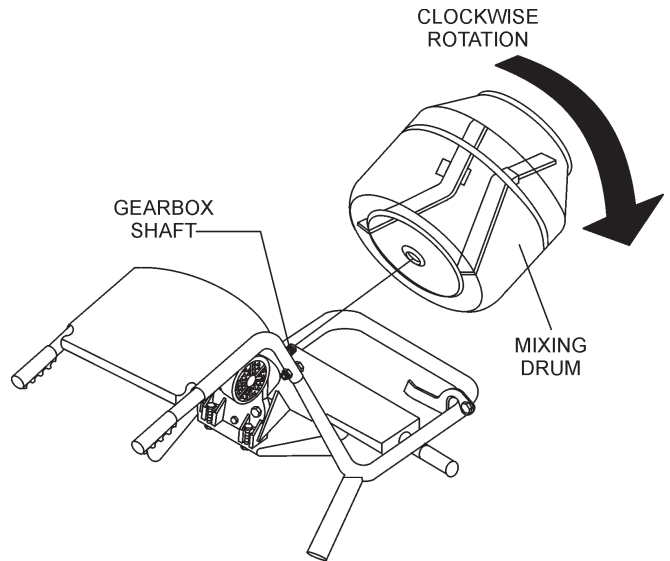

Figure 8. Mixing Drum Placement
3. Fit the mixing drum onto gearbox shaft as shown in Figure 8. Rotate drum in a clockwise direction, make sure the drum fits right up to the shoulder on the gearbox shaft.